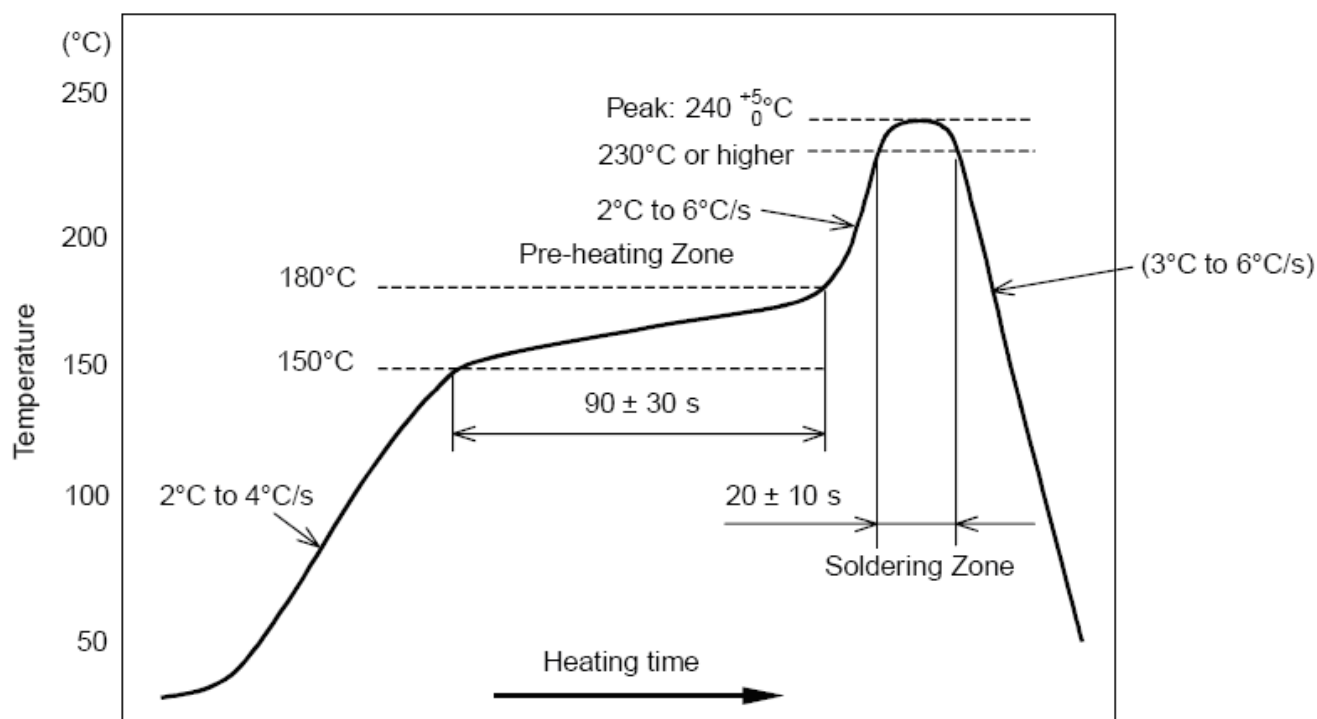

图 11-1. Temperature Profile for Evaluation of Solder Heat Resistance of a Component (at Solder Joint)
- Temperature measurement: Thermocouple  $d = 0.1 \text{ mm}$  to  $0.2 \text{ mm}$  CA (K) or CC (T) at soldering portion or equivalent method
- Allowable reflow soldering times: 2 times based on the reflow soldering profile (see 图 11-1)
- Temperature profile: Reflow soldering will be done according to the temperature profile (see 图 11-1)